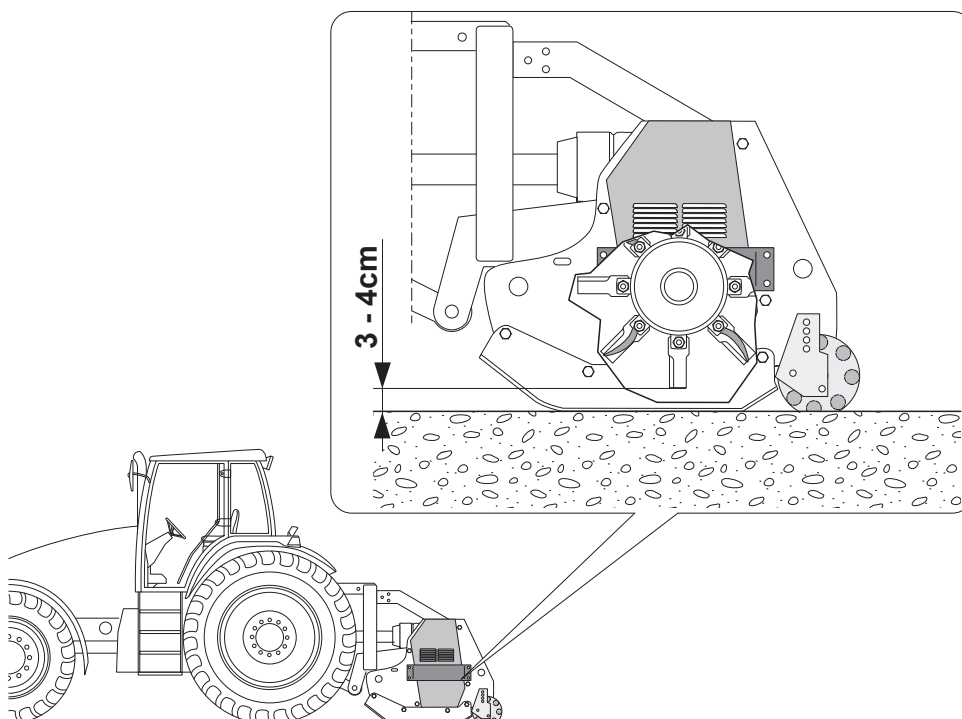

Fig. 11
- Adjust the working height so that the tools are at about 3 - 4 cm from the ground (Fig. 11).